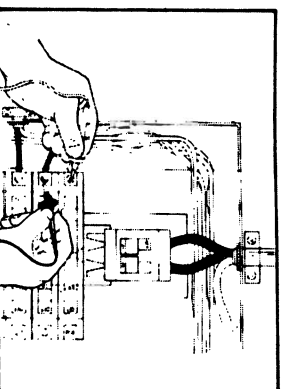

Fig. 2
- (1) Insert the red test lead into the "VOLT" terminal of the instrument and the black test lead into the "COM" terminal.
- (2) Set the range switch to the Voltage "V" position.
- (3) Connect the prod tips to the circuit under test (Fig. 2) and read the voltage directly on the display.